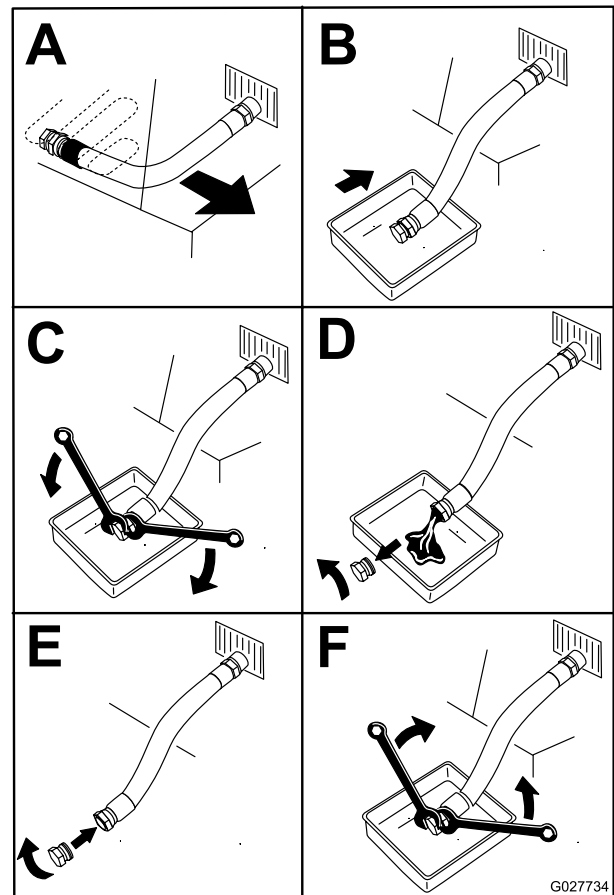

Figure 48
- Drain the oil from the engine (Figure 48).